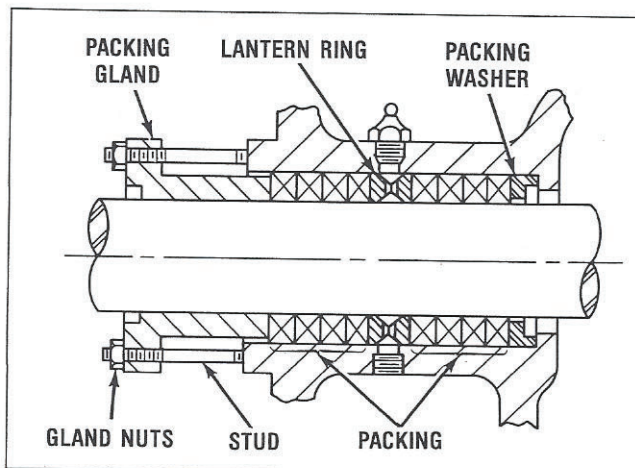

Figure 3-1. Cross Section of Stuffing Box
1. Upon initial start up of the pump, be sure that the packing gland nuts are only finger-tight and evenly adjusted. See figure 3-1.